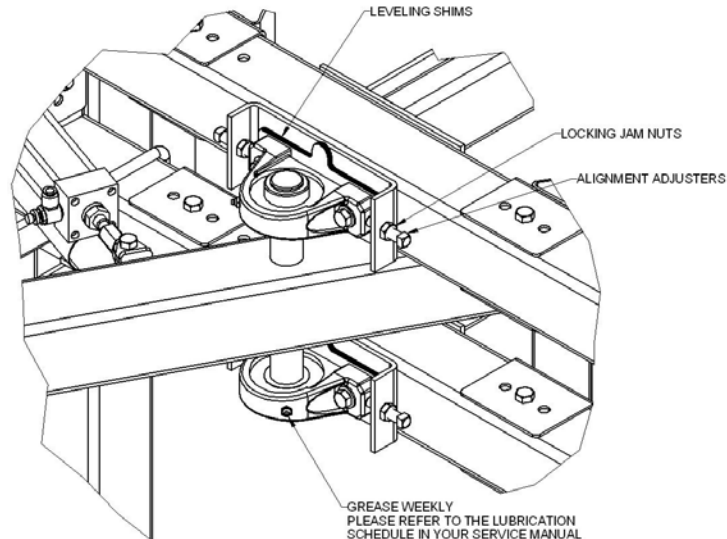

Figure 1-16. *Where to Make Adjustments for Arm Leveling*
50. There are two items on the Flex Wrap header that used to adjust the leveling of the arms; the leveling shims and the alignment adjusters as shown in figure 1-16.